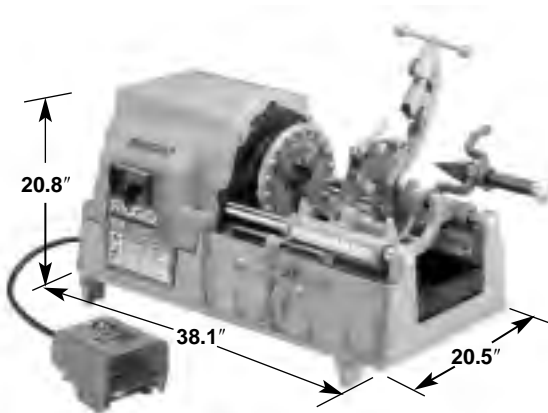

Figure 2 – No. 535 Machine Dimensions
1. If a stand is not used, the machine should be mounted to a stable bench. To mount the unit on a bench, use four (4) $\frac{5}{16}$ " bolts in holes provided at each corner of machine base. Base dimensions are shown in Figure 2.